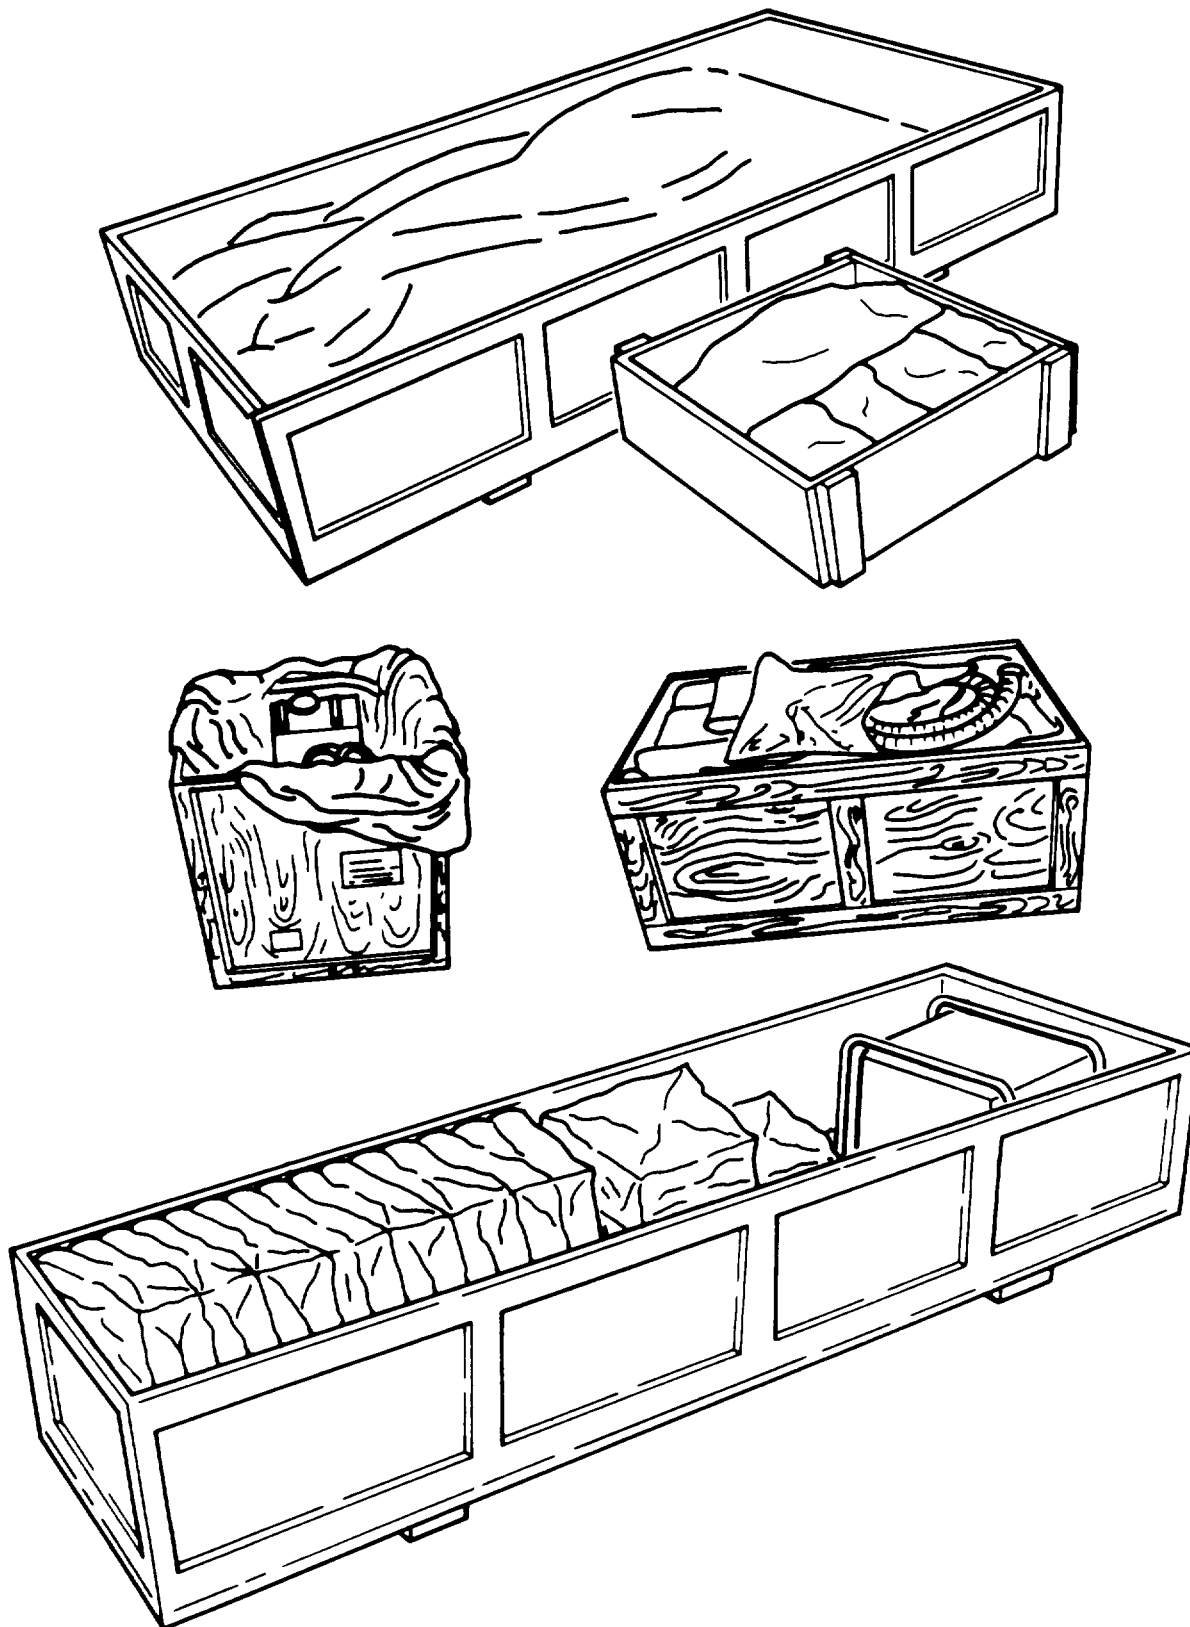

Figure 4-1. WDS Shipping Crates
The five water distribution systems are shipped in reusable wooden crates of various sizes (figure 4-1). Use care when uncrating equipment to avoid unnecessary damage of shipping crates. Refer to Chapter 1, Section II for identification of particular water distribution system (WDS) components and kits to be used for your system. When uncrating equipment, it is important to remember that the system is based on a modular concept. The systems described in this manual are dealt within general terms. When for instance, the 1,000K WDS is described as consisting of 20, 50,000 gallon water tanks and associated equipment, this is not meant to imply that all 20 water tanks must be used. Uncrate only the amount of equipment necessary to perform your particular operation. Uncrate equipment as follows.
- Remove top of wooden shipping crate (figure 4-1). An equipment shipping list is supplied with each system. Remove equipment shipping bags from shipping container one at a time.